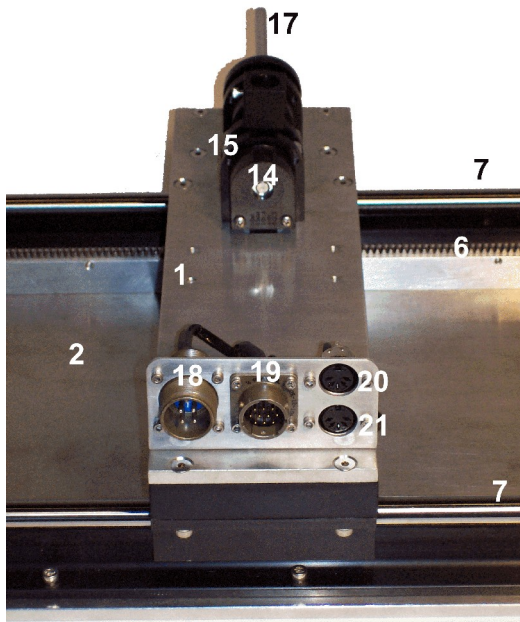

Figure 3 Back view of cart.
As a quick nomenclature, Table 2, below, provides a list of all the principal elements composing the HFLC system. Every element is located and identified, through a unique identification (ID) number, on the HFLC system represented in Figures 3, 4, and 20, below.